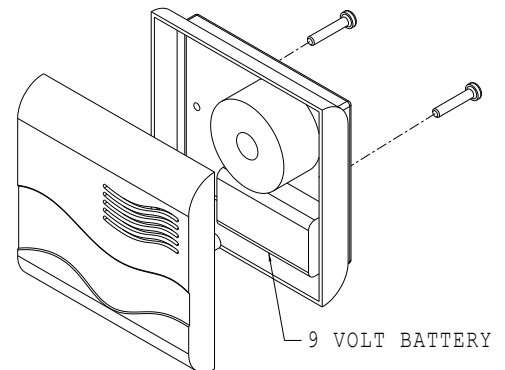
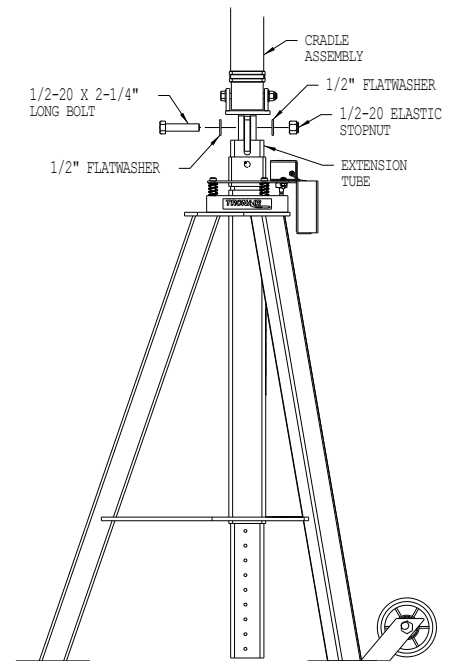

FIGURE 2
FIGURE 3
**Reference Figure 2.**
2. Fasten cradle assembly to extension tube with one (1) 1/2 - 20 x 2 1/4" long hex head bolt, two (2) 1/2" flatwashers, and one (1) 1/2 - 20 elastic stopnut.
**Reference Figure 3.**